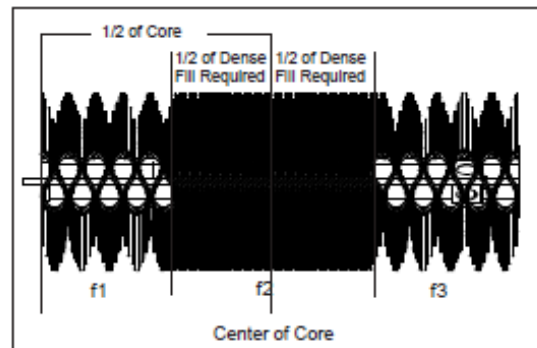

figure 3 (CP Special Only)
- f1. For CP Special, slide sections on as stated above up to a predetermined point which is 1/2 of the densely packed area below the center of the core. (figure 3)
packed area is full. (figure 3)
- f3. For CP Special, revert back to alternating up and down angle for the drive pins until the core is full. (figure 3)